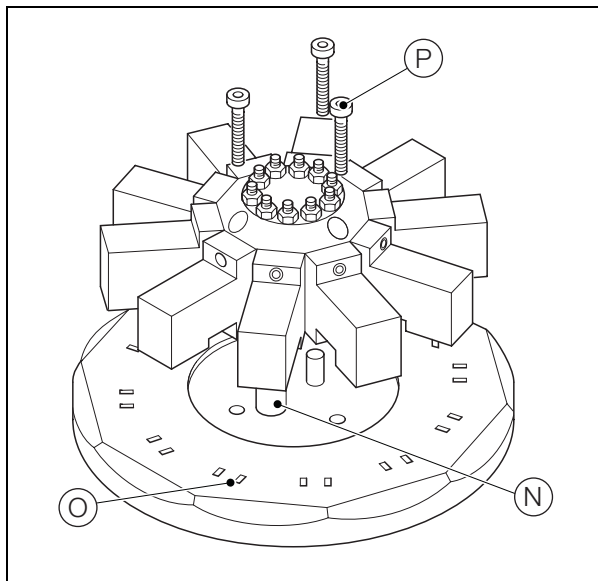

Fig. 12.3 Refitting the Valve Manifold
6. Referring to Fig. 12.3:
- a. Locate the valve manifold over the off-set pegs (N) on the base plate, ensuring that the terminals on each valve engage in the sockets (O) on the base plate.
- b. Secure the valve manifold to the base plate with the three M4 screws (P).